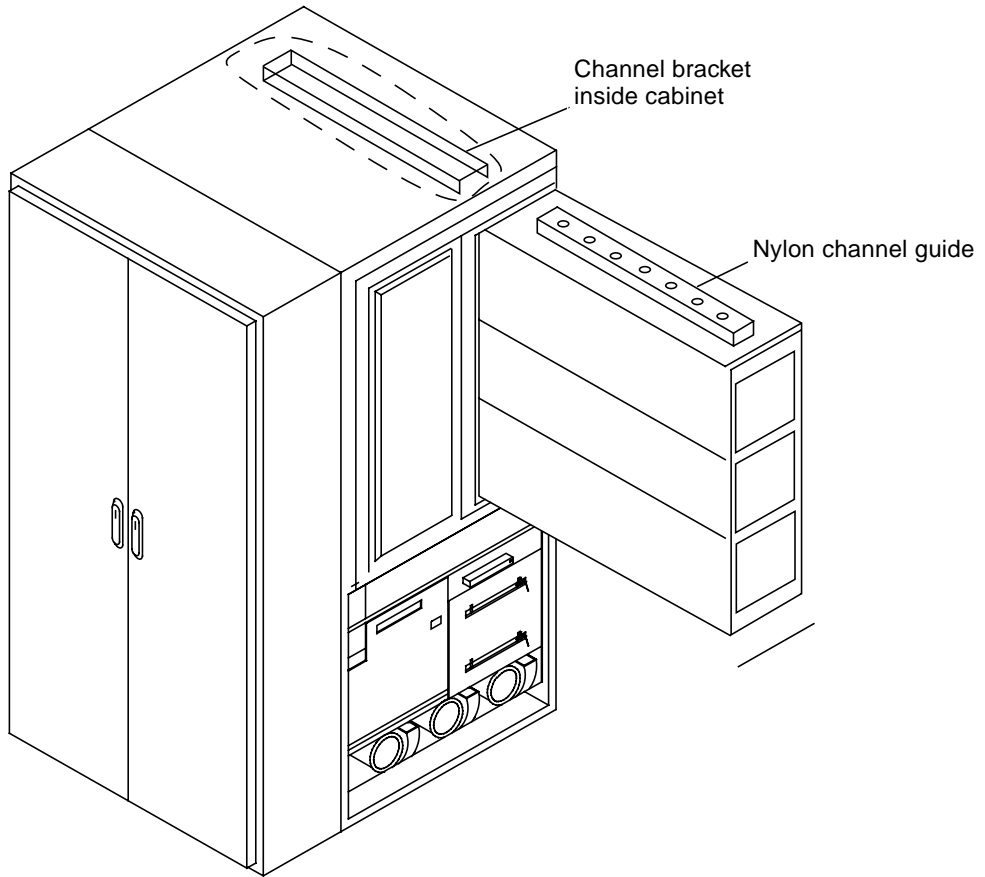

FIGURE 5-7 HDSA Drawer Channel Guide Adjustment Diagram
4. **At the top of the drawer is the nylon channel guide, shown in FIGURE 5-7. Seven screws hold the channel guide in place. Loosen all seven screws. Note that the channel guide moves side to side.**